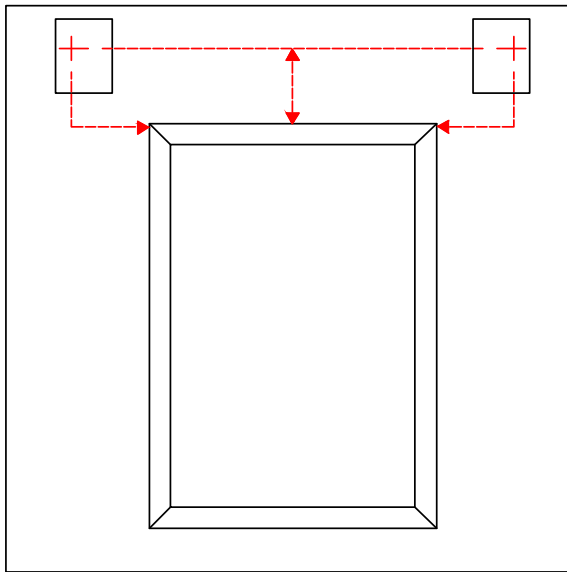

Fig. 1
- A. Start by moving away from the left edge of your window, then find where two points meet: (1) Subtract one inch from the left stack width, and (2) Use your mounting height. For example, if you ordered a 10-inch left stack width and your mounting height is 100 inches, mark 9 inches horizontally and 100 inches vertically upward. *[Fig. 1]*